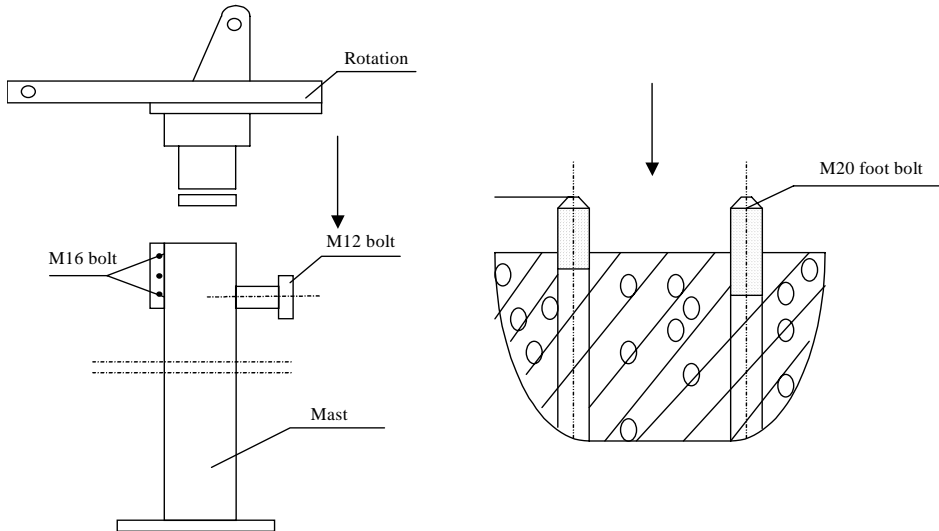

Fig. 4 Pedestal installation
2.3.2. Pedestal installation (See Fig. 4)